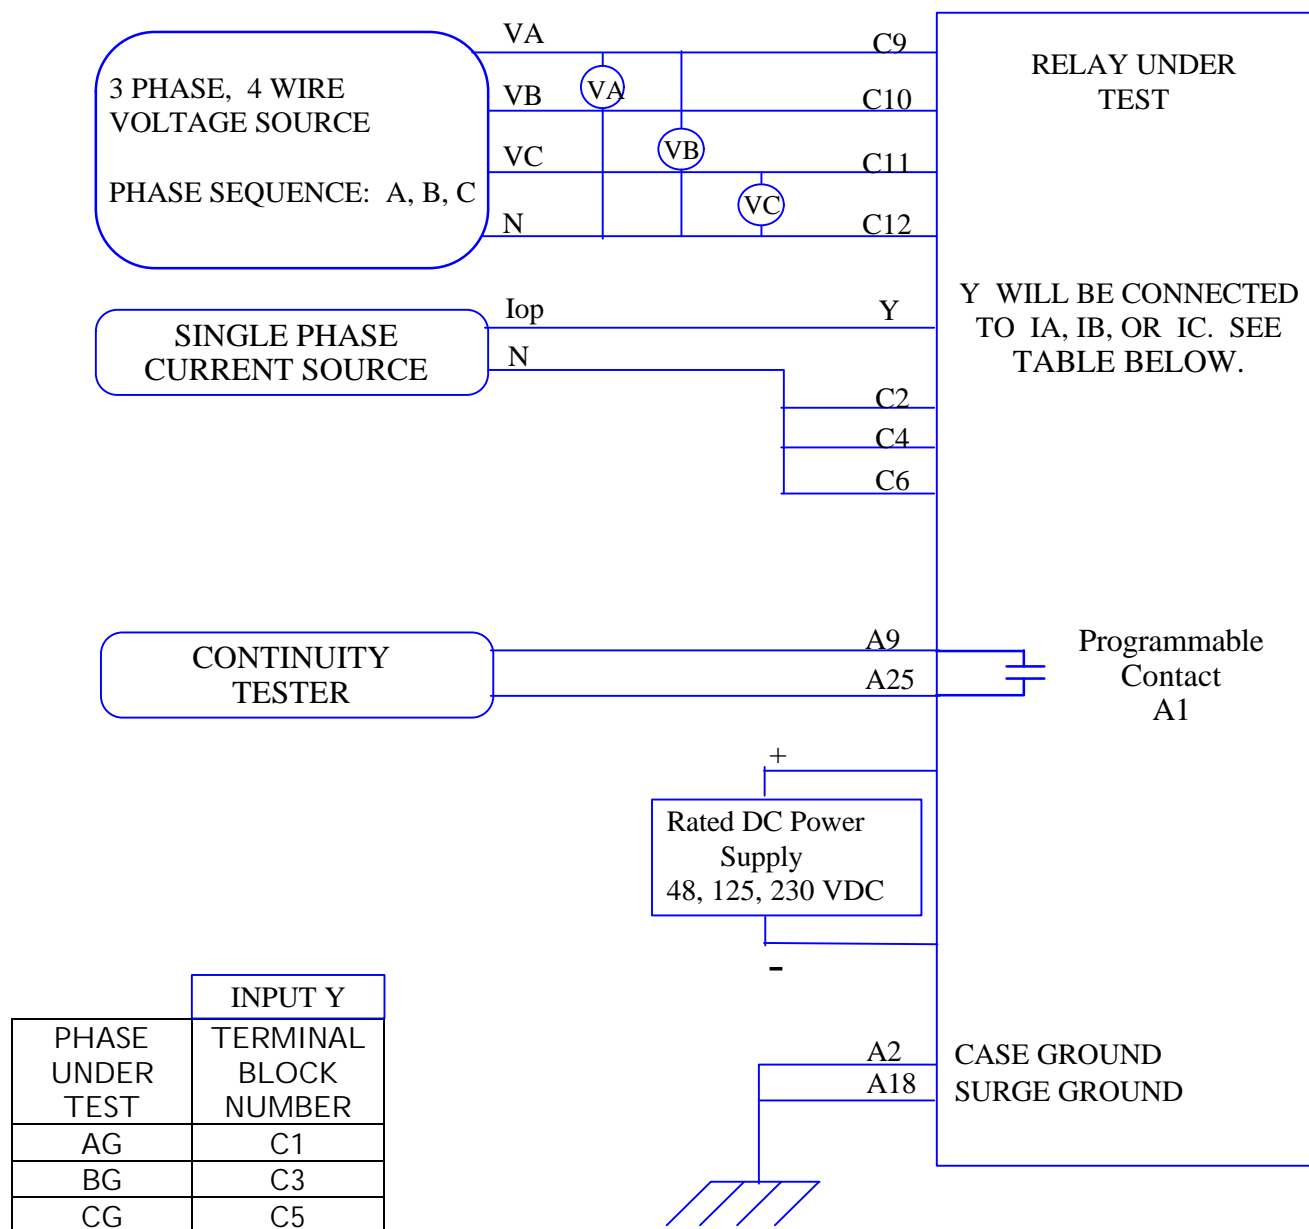

Figure 4-3. Phase-to-ground test connections
1. Connect the relay as shown in Figure 4-3.
5. Set Iop to 1.0 amp rms for phases IA, IB, or IC, as shown by the Y connection point in Figure 4-3.